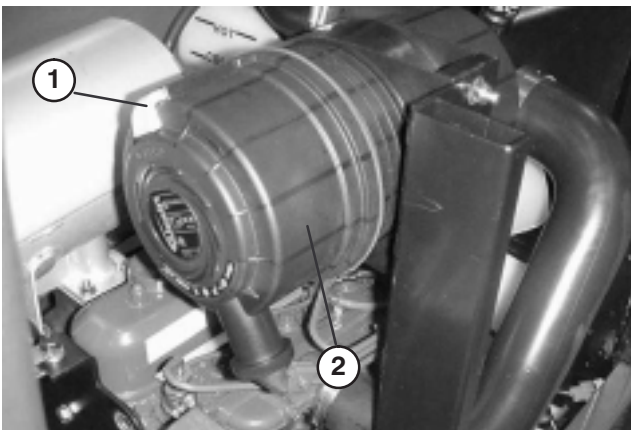

Figure 29
1. Pull latch outward and rotate air cleaner cover counter-clockwise. Remove cover from body (Fig. 29). Clean inside of air cleaner cover.